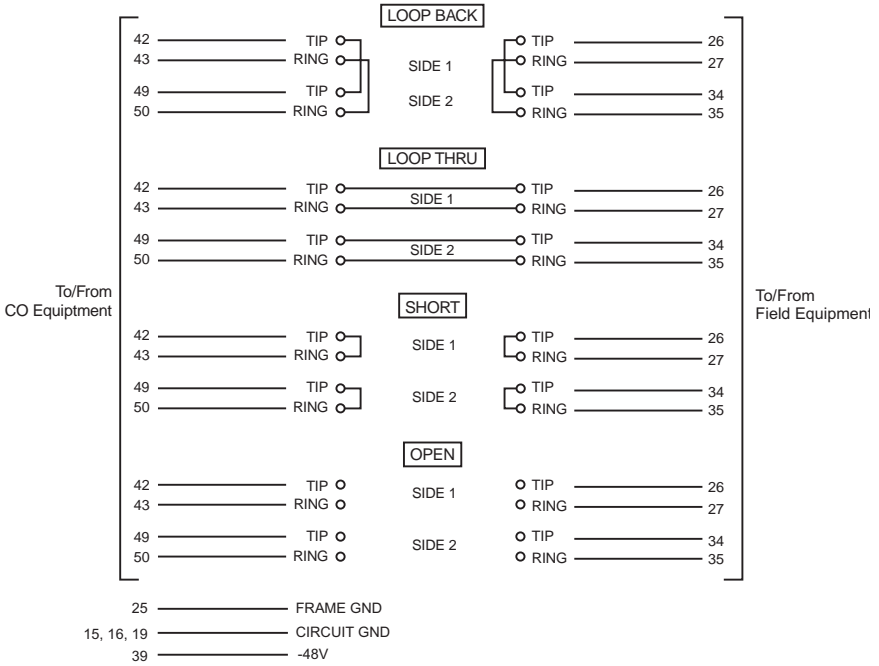

Figure 2. HTC-220 Test Card Test Connections
The HTC-220 Test Card enables you to perform LOOP-BACK, LOOP-THRU, SHORT, and OPEN tests on CO and Field circuits by using the four-position test selection switch (S1) to select the appropriate test. All tests are run on both side 1 and side 2. Figure 1 illustrates the locations of the test points, 210 jacks, and selector switch. Figure 2 and Figure 3 illustrate the connection of Tip and Ring pairs of CO and Field circuits for each setting of the test switch. Table 2 provides a written list of the connections.
- 2 Set switch S1 on the card to the type of test you want to perform (LOOP BACK, LOOP THRU, SHORT, or OPEN). Figure 2 on page 6 and Table 1 illustrate and list the connection of Tip and Ring pairs of CO and Field circuits for each setting of the test switch (S1). Pin numbers correspond to edge connector pins for each circuit.